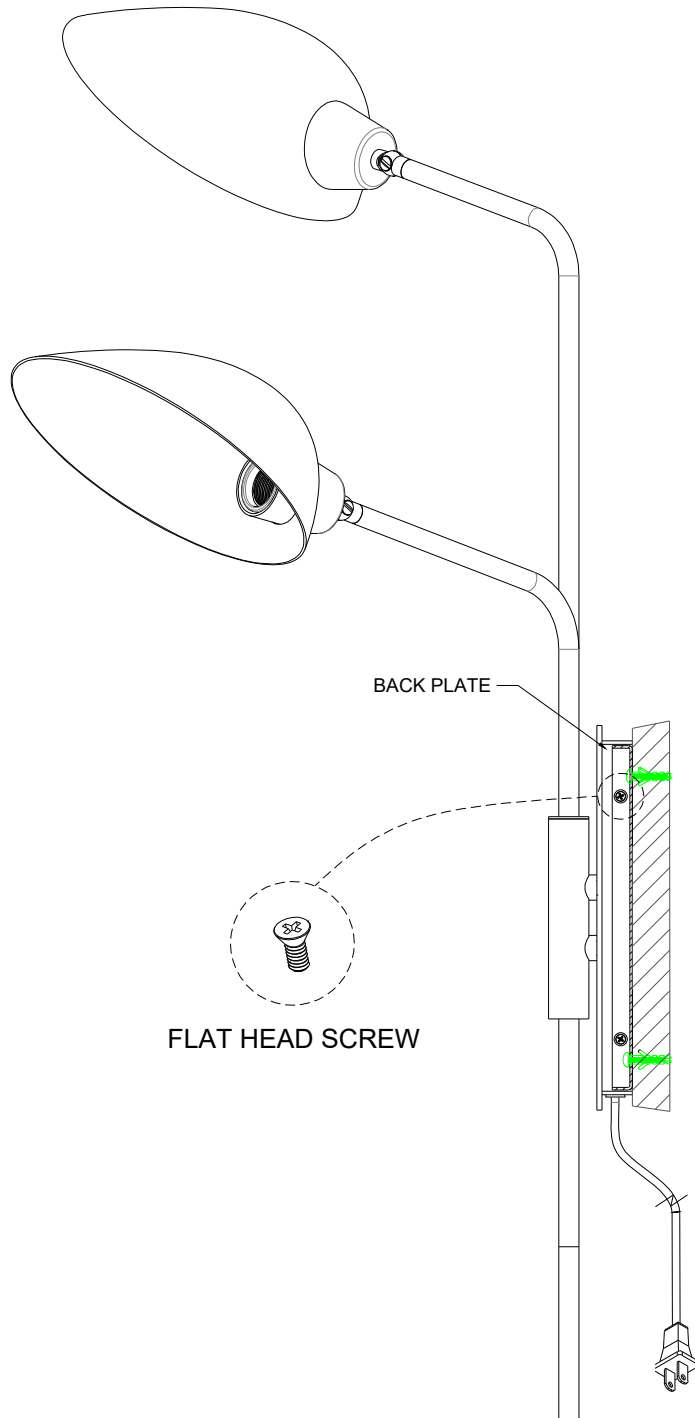

FIGURE-03
2. Attach the fixture's backplate to the mounting plate and secure it with flathead screws (See Figure-03)